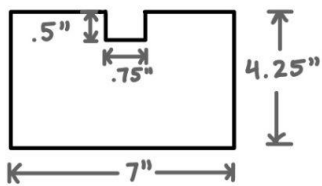

Figure 3: Cardboard Base Front Wall
- a. The wires of the ultrasonic sensor should go through the hole in the base front wall (**refer to Figure 3**).